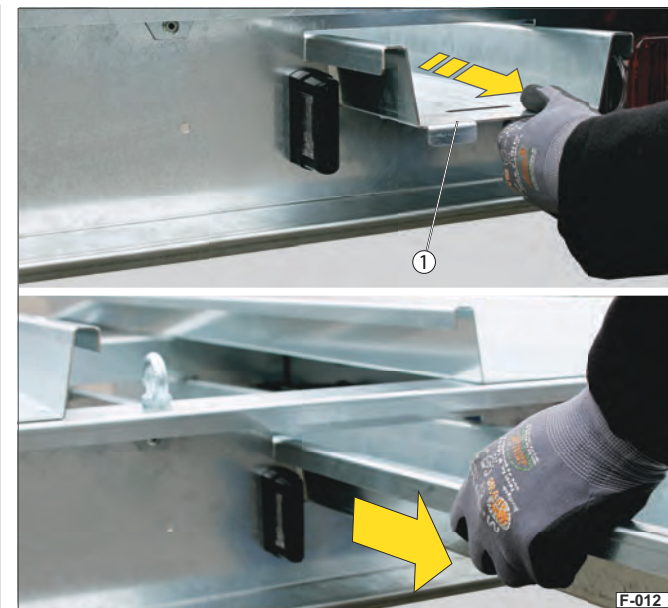

**Fig. 11** Releasing the loading ramp
- ▶ Plug the socket wrench (Fig. 11 /1) into the square hole.